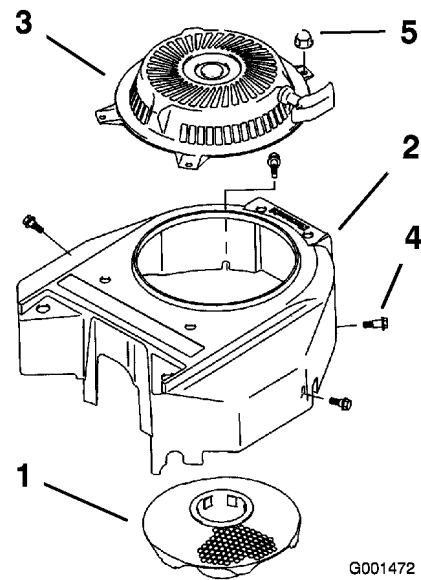

Figure 41
3. Remove the air intake screen, recoil starter and fan housing (Figure 41).
5. Install air intake screen, recoil starter and fan housing (Figure 41).